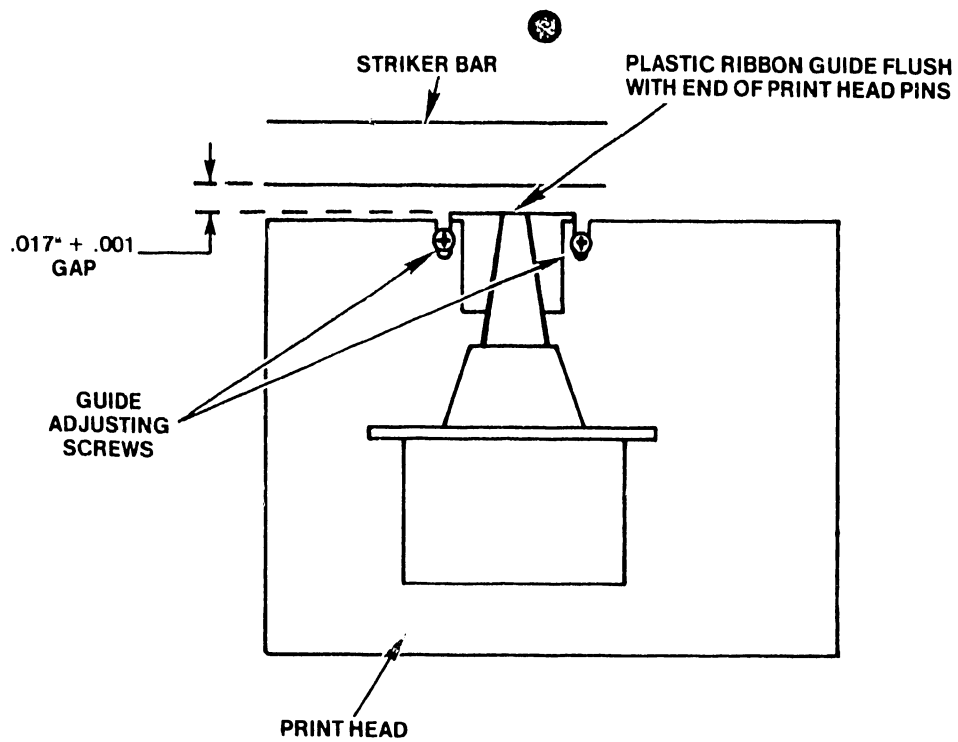

Figure 5-3 Ribbon Guide Shield Adjustment
- a. Loosen two guide adjustment screws and adjust the ribbon guide for .017" gap from the striker bar as shown in Figure 5-3.